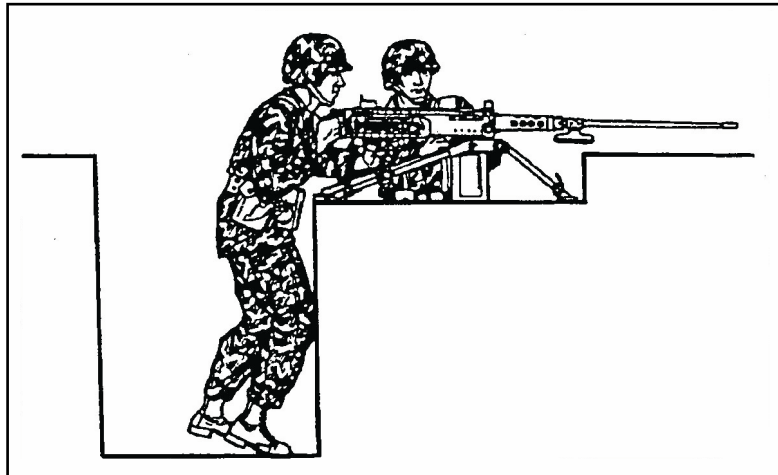

Figure 071-313-3454-3. Standing position (tripod mount)
d. Standing position for cupola-mounted gun (figure 071-313-3454-4).